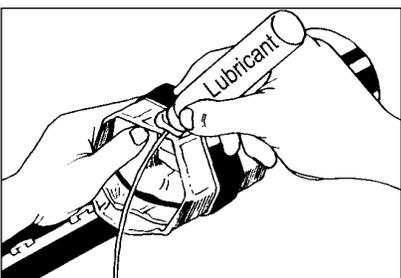

Figure 7
5. Lubricate the filling tube on the TDUX duct seal. *(Figure 7)*